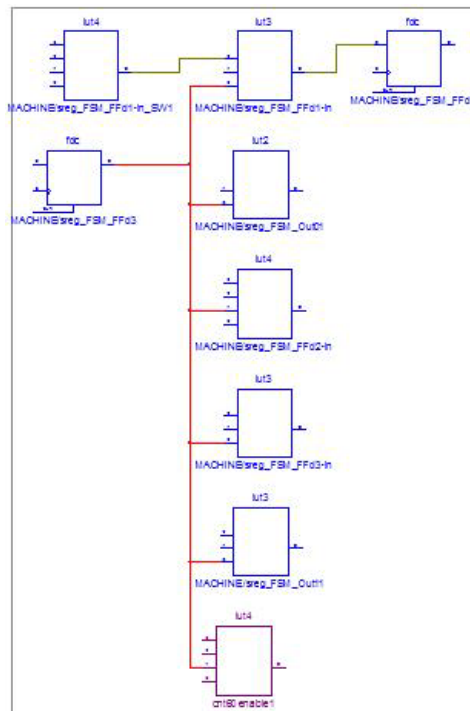

Figure 4-12: Connecting the Net
4. Continue to double-click the (dashed-line) net until it becomes a solid line, meaning that all elements connected to the net are now visible as shown in Figure 4-12.